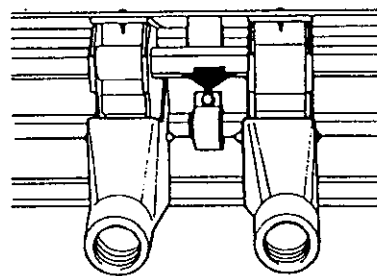

Figure 29
- 2/ Remove the retaining bolt from the worn or damaged bush (See Figure 29) and replace the bush.
Installation procedure is the reverse of the above. You will need to reseal the ends of the metering assembly (See figure 29) with a quality silicone sealant.